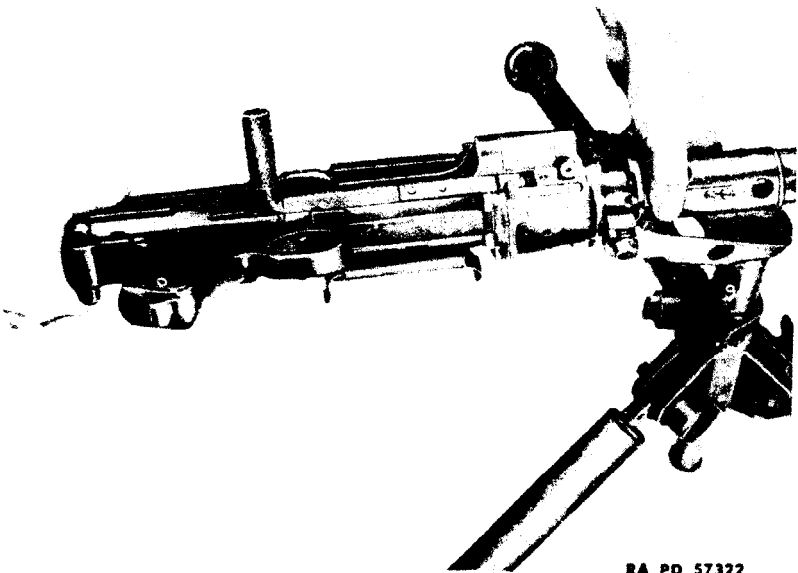

Figure 8 — Mounting Machine Gun on Antiaircraft Tripod
b. **On the Antiaircraft Tripod.** Place the machine gun on the tripod so that the curved head on the tripod slides into the rear mounting guide on the barrel casing. Depress the tripod catch spring, and rotate the machine gun until the spring snaps into position (fig. 8). The tripod legs are both hinged and telescopic, to permit large adjustments in the height of the firing position. Smaller adjustments can be made by means of the adjustable support at the top of the tripod.
(1) If the tripod mount is folded, it should be unfolded and erected as follows: